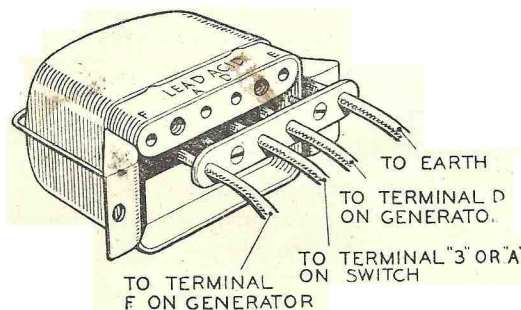

Fig. Y16. Connections to Regulator Unit.
First ensure that the wiring between regulator and battery is in order. To do this disconnect the wire from the (A) terminal of the regulator (Fig. Y16). It may be necessary in some cases to remove the regulator from the motorcycle.